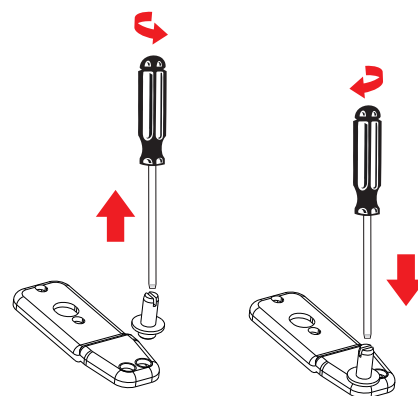

Fig. 16
- ▶ Use a slotted screwdriver to remove the hinge pin on the lower hinge and screw the pins back into the hole on the opposite side (Fig. 16).